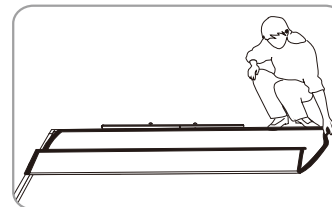

Figure 12
2. Snap screen buttons to frame. Start at frame corners and finish at frame sides (Figure 12 - 14).